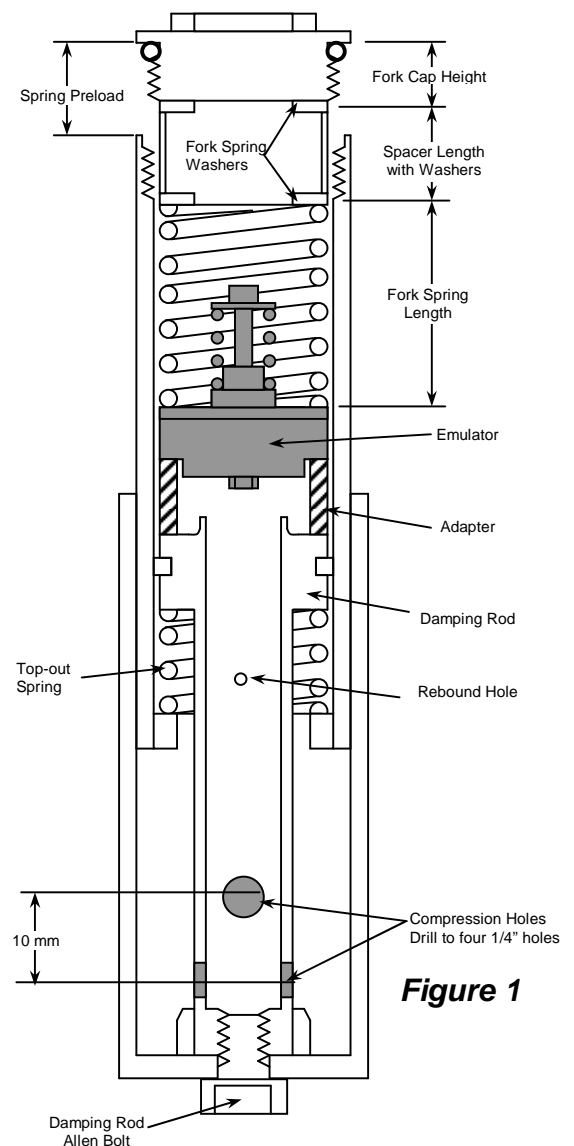

Figure 1
- 2 Drill the existing compression holes in the damping rod to 1/4 inch (6 mm) and add two holes so you end up with four holes (2 sets of 2 holes) (figure 1).** When drilling new holes, space them axially (lengthwise) at 10 mm (7/16") increments. Each set of two holes must be perpendicular to the last set so as not to weaken the rod (figure 1). After drilling, chamfer and deburr the compression holes, inside and out. **Do not add or enlarge the rebound hole and leave its edge sharp.**
- a. Drop the Adapter then the Emulator down the tube. They sit on top of the damping rod with the Emulator Valve Spring facing up and are held in place with the main fork spring. Refer to figure 1. Visually check to make sure the Emulator is sitting squarely on top of the Adapter.
c. Set the fork cap on the washer and determine the preload by measuring from the top of the fork tube to the sealing lip on the fork cap (see figure 1). This is a direct measurement of fork spring preload. Shorten the spring spacer tube to achieve the proper preload.